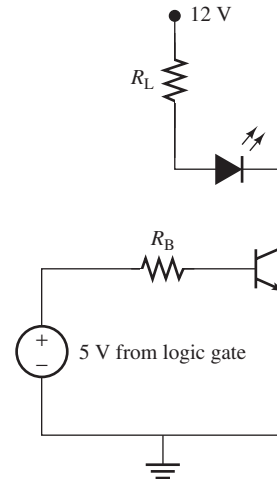

FIGURE P8.52 Logic gate-controlled photodiode.
- 8.52 (A) A transistor switch (operating in the saturation region) is controlled by the output of a digital logic gate as shown in Figure P8.52. The output of the logic gate is 5 V. A resistor (R_B) is needed to limit the current out from the digital logic gate to 5 mA to protect it, and a resistor (R_L) is also needed to limit the current through the photo-diode to 10 mA. Calculate the value of the two protecting resistors.